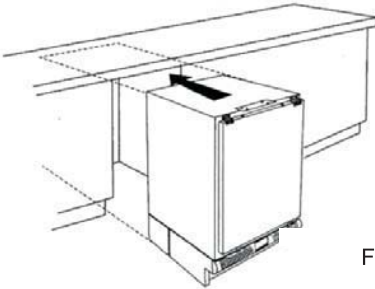

Figure 2
3. After inserting the appliance in the appropriate furniture (Figure 2), you must adjust its height using the 4 adjustable feet (Figure 3). The height can be adjusted from 82 to 87 cm.